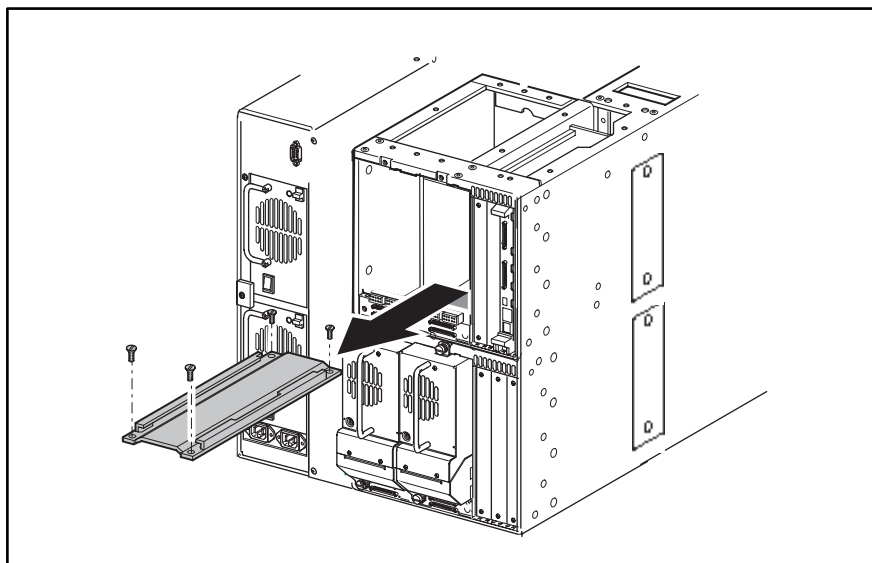

Figure 3–35: Removing a tape drive guide
1. Position the tape drive guide in the tape drive bay with the two straight-sided holes facing the rear of the library (see Figure 3–35).
2. Replace the four flat-head screws that secure the tape drive guide in the library chassis (see Figure 3–35).